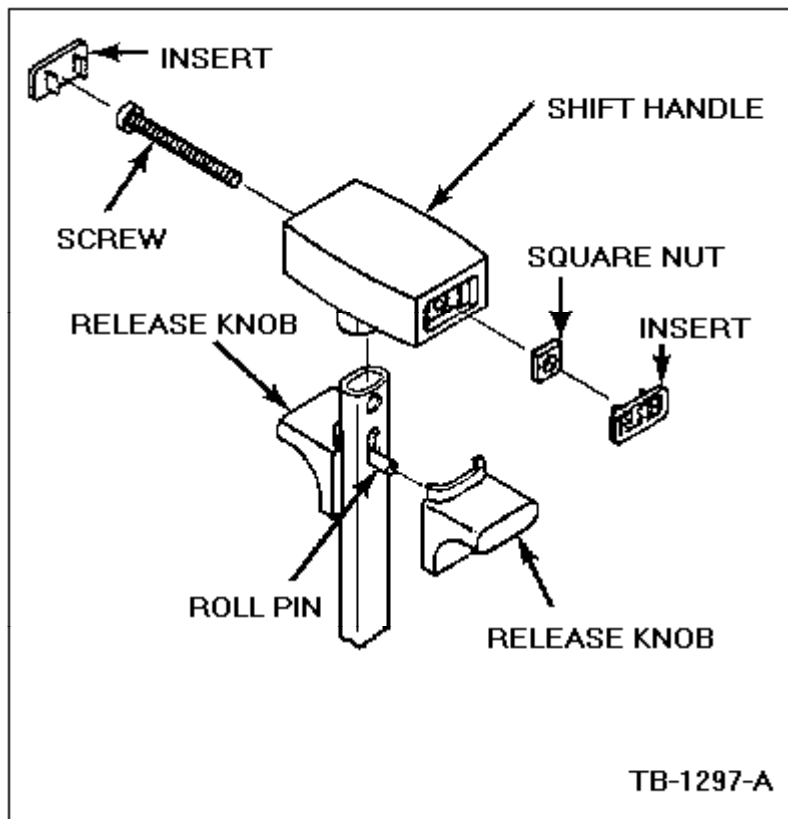

Figure 2 - Article 89-23-14
1. Remove and throw away both existing knob inserts, Figure 2.